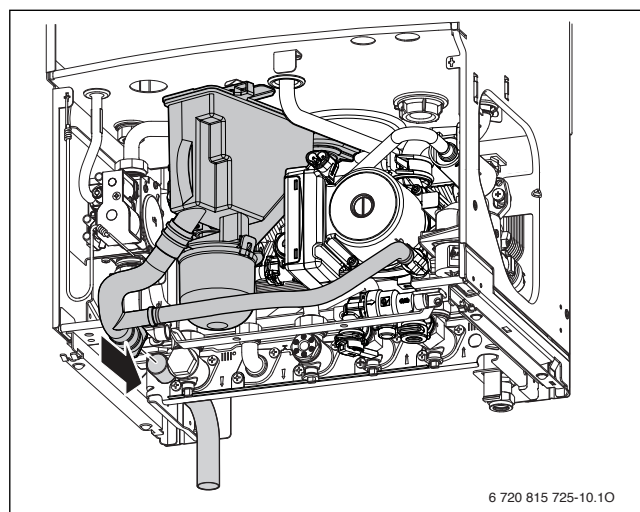

Fig. 41 Condensate connection
- ▶ Refer to figure 41, condensate connection: